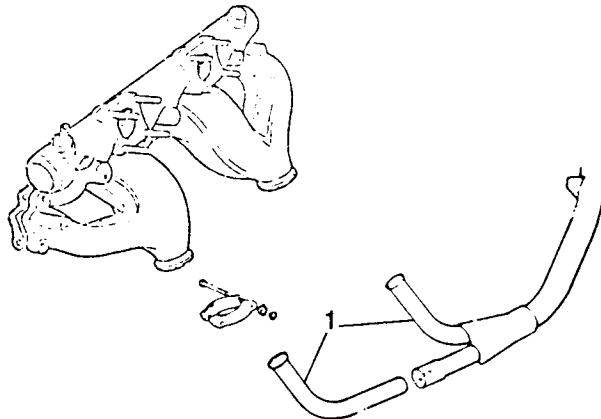

Fig B4.75
(13) Refer to Fig B4.75. Position and connect the exhaust downpipes (1) to the manifold.